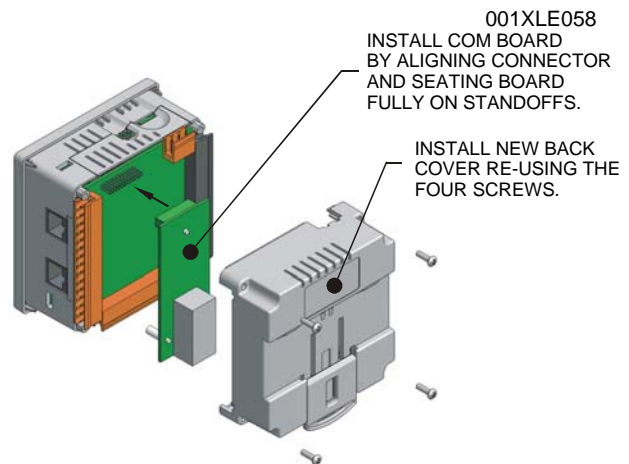

Figure 3.2 – Installing the XEC COM Module in the XLe
3. Plug the XEC COM module onto the 24-pin connector. Make sure all the pins are properly aligned (**Figure 3.2**).
5. Place the screw back into the hole and turn the screw slowly counter clockwise until it clicks into the threads. This prevents the screw from being cross-threaded. Now, turn the screw clock-wise until the cover is firmly secured. Repeat this process for all four (4) screws.